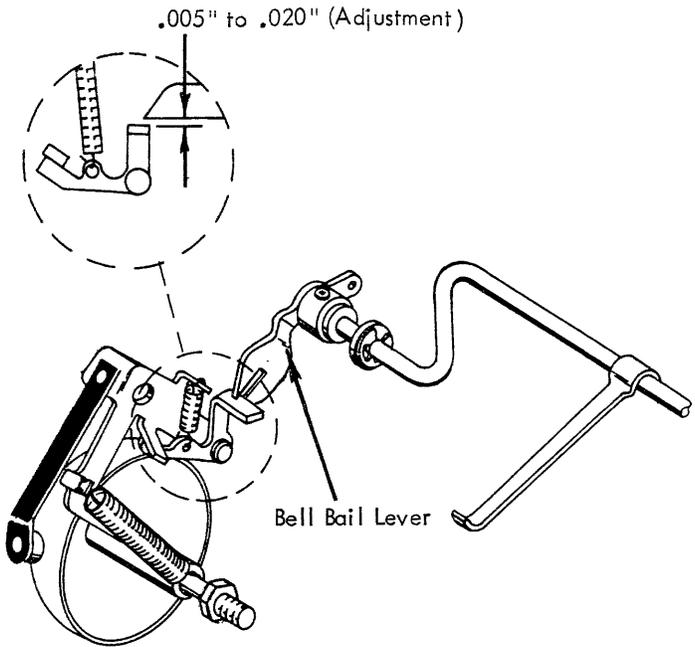

FIGURE 180. Bell Bail Lever (Early Style)
- a. Early - With the carrier positioned away from the right hand margin stop, adjust the bell bail lever located on the left end of the bellringer bail to have  $.005''$  to  $.020''$  clearance with the bellclapper bellcrank lever when the bail is at rest against the bail stop (Fig. 180). The bail stop is located at the right end of the bail.